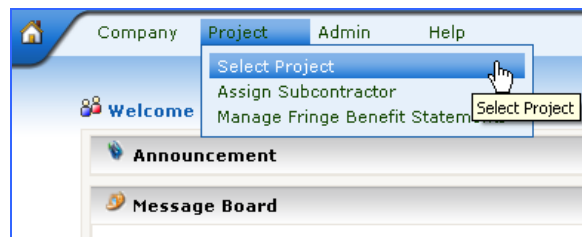

Figure 75 - Selecting a Project Screen
2. Scroll down to "Select Project" (Figure 75).